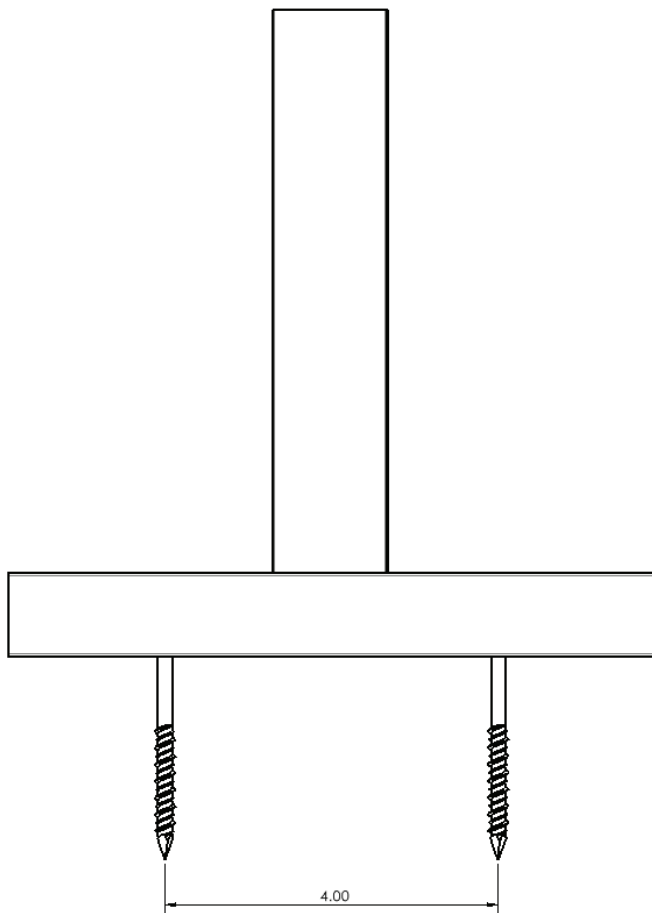

Figure 18
13. For both block frame and nail fin frames, additional anchors are needed at each T-bar location. At each T-bar location, hard block/shim as needed and once level, drill (2) $\frac{1}{4}$ " diameter holes 2" from each side of the T-bar through the anchor screw groove. Pump a generous amount of Dow 795 sealant, or equivalent, through the anchor holes and install (2) additional $\frac{1}{4}$ " diameter x 3" anchors. Apply and tool additional sealant over the heads of the anchor screw. See figures 18 and 19.